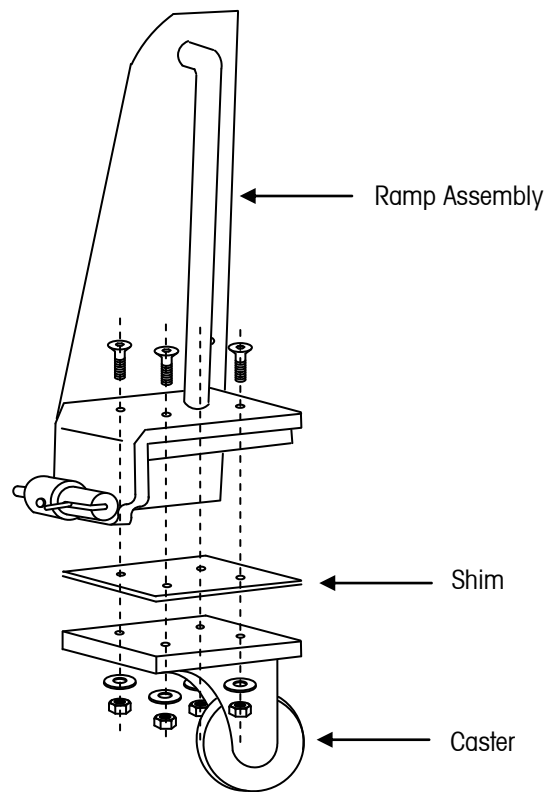

Figure 7-2: Swivel Caster Installation
2. Position the new caster as shown in Figure 7-2, so that the bolt holes line up with the holes in the ramp assembly. Shims are provided to allow you to adjust the amount of clearance between the casters and floor when the ramps are raised.